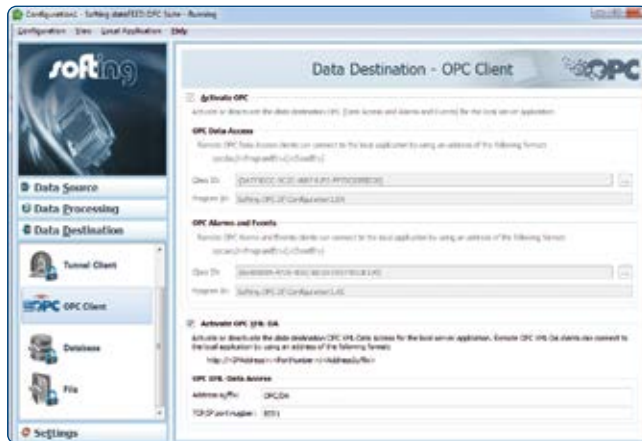

Figure 80: Starting the OPC Bridge.
15. Start the OPC Bridge (local application => start). The settings are disabled and the programm icon (upper left corner) is green (Figure 80).